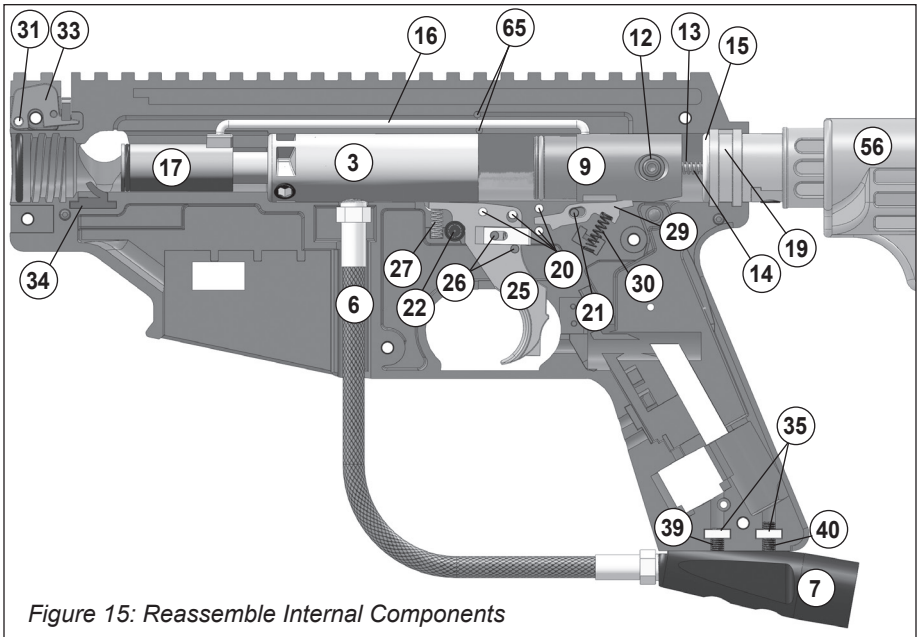

Figure 15: Reassemble Internal Components
9. To remove the left-side **Receiver** (36), unscrew six receiver bolts (37 and 38). Then carefully lift the left-side receiver to access the internal parts.
10. With left half removed (as shown in Figure 15), pull the **End Cap** (19) out to remove the **Bumper O-Ring** (15), **Guide Pin** (14) and **Drive Spring** (13). These parts must be removed before the **Rear Bolt Handle** (12) can be removed.
1. Refer to the Figure 15 and double check that the following parts are in place: Trigger Assembly and Pins (20, 25, 26, and 27), Safety (22), Sear Pin (21), Sear (29), Sear Spring (30), Feed Elbow Latch (33), Pin (31), Spring (32, not shown), Front Bolt* (17), Ball Latch (34), Linkage Arm* (16), Linkage Arm Pins (65, qty 2), Rear Bolt* (9), Drive Spring* (13), Guide Pin* (14), Bumper O-ring (15), End Cap (19), and two Air Supply Adapter Nuts (35) (* = indicates to be lubricated with Tippmann Certified Marker Oil).